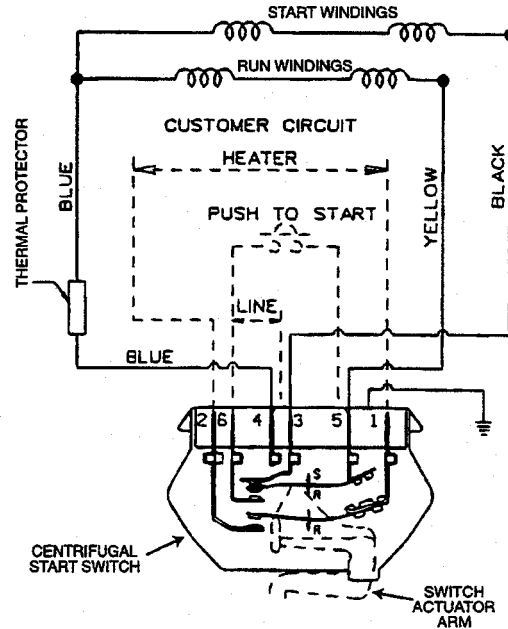

Figure 2-53
With the wire harness connector removed, press inward on the brown actuator disc in the motor. The start and run winding can now be checked for proper ohms. Place the leads from an ohm meter on the proper terminals as listed in the following chart, *see Figure 2-53.*
Two test leads are required to check operation of the drive motor. To check the motor for operation, hook the test cord to terminals 4 and 5, *see Figure 2-53.*
2. Place ohm meter leads to terminals 1 and 2, *see Figure 2-53.*